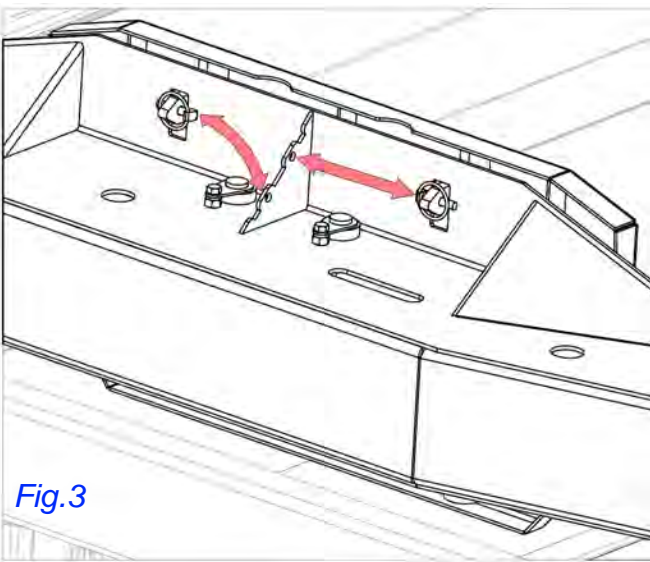

Fig.3
9. Move linchpins from ram push plate hooks to storage position on ram. See Fig.3.